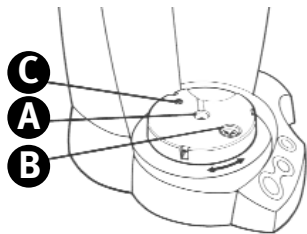

FIGURE 1
**ROTARY TABLE:** The water port (A) is located in the centre of the rotary table. If the Processing Carafe is inadvertently over filled, some excess water will show up here. Just wipe any excess water. (FIGURE 1)
The water drain valve (B) is located diagonally and to the right of the water overflow port. Water travels to the carbon-block filter through this valve. It is normal to see water in this area. (FIGURE 1)
Port (C) is where the ozone is dispersed into the water. When the ozonation process is taking place, you will be able to see the bubbling process occurring. (FIGURE 1)